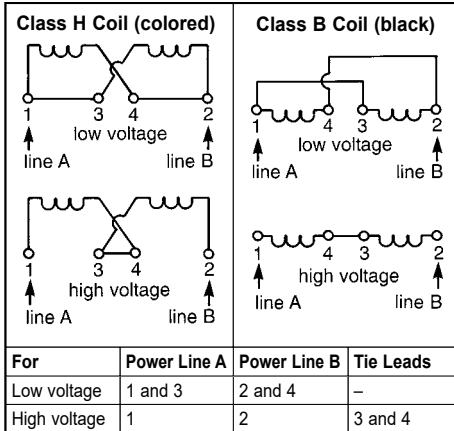

Figure 2
- 2. On single voltage coils, connect coil to any two leads on three-phase motors of the same voltage as the brake. Refer to brake nameplate and coil number for correct voltage and frequency. See Figure 2 for dual voltage coil connection and connect to any two leads of three-phase motor of the same voltage. The brake can also be wired